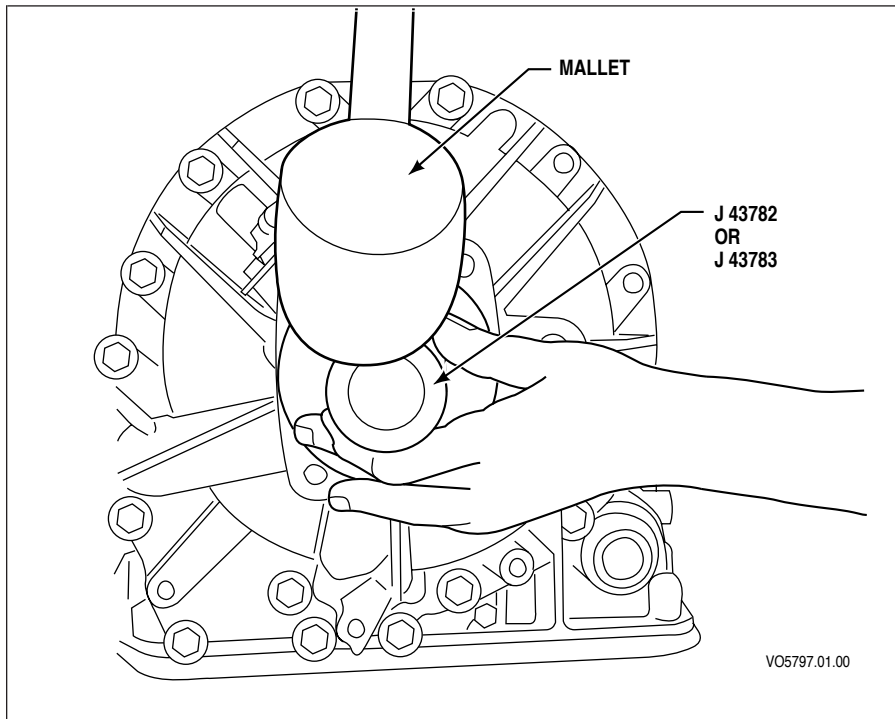

Figure 6-5. Installing Rear Seal
4. Slide the installer tool over the output shaft until the seal starts into the seal bore. Strike the installer tool with a mallet to drive the seal into the seal bore (refer to Figure 6-5). The seal is installed correctly when the shoulder of the installer tool squarely contacts the outer surface of the rear cover.